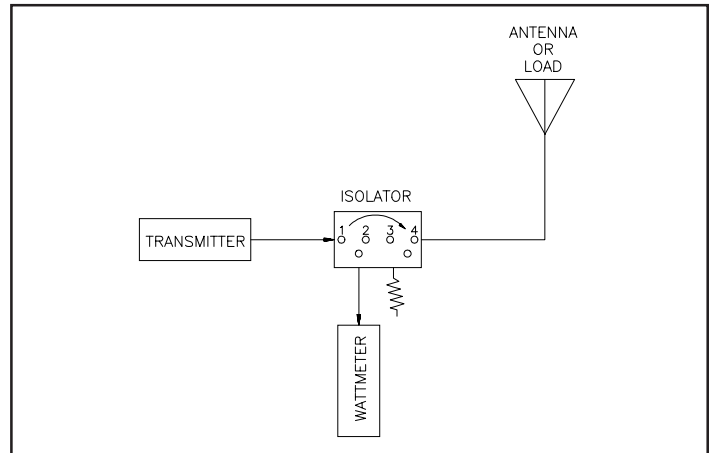

Figure 3
7. Connect the equipment as shown in Figure 3.